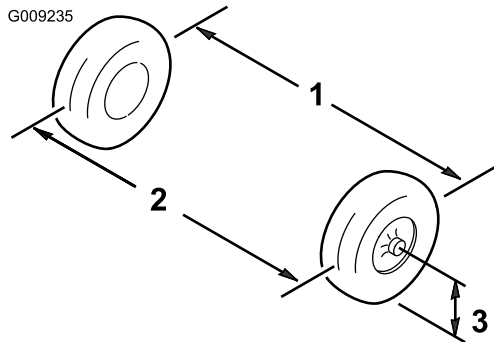

Figure 81
5. Measure the distance between both of the front tires at the axle height at both the front and rear of the front tires (Figure 81).